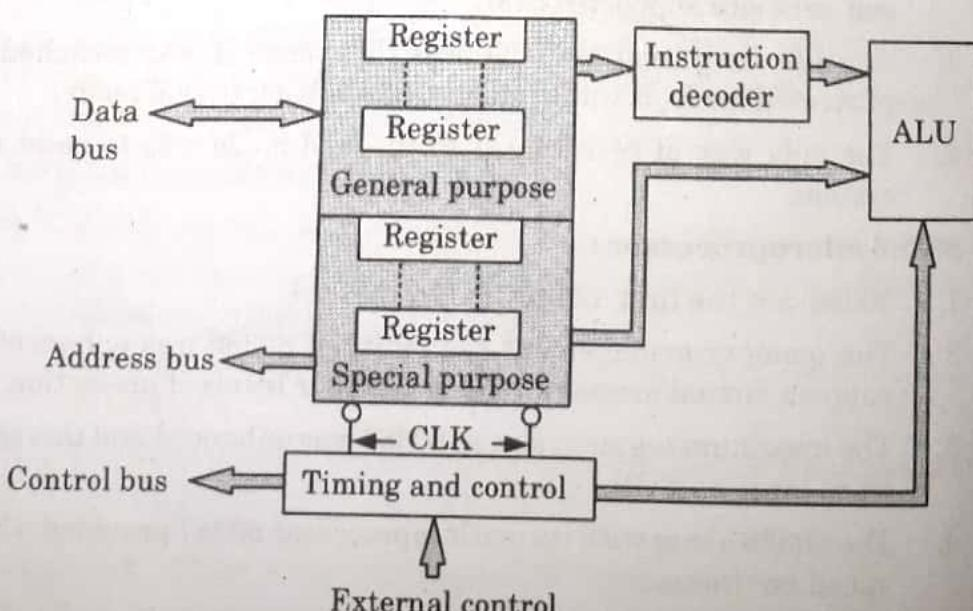

Fig. 1.4.1. General architecture of a microprocessor.
2. The general purpose architecture of microprocessor is shown in Fig. 1.4.1.